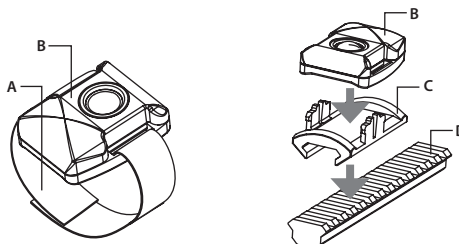

FIGURE 3-12. ADVANCED WIRELESS REMOTE CONTROL
Using Velcro tape (A, Figure 3-12), fasten the remote control unit (B) to the weapon in an easily accessible place (e.g., on the front of the rifle stock) on the side of the CO-MINI's wired cover preferably.